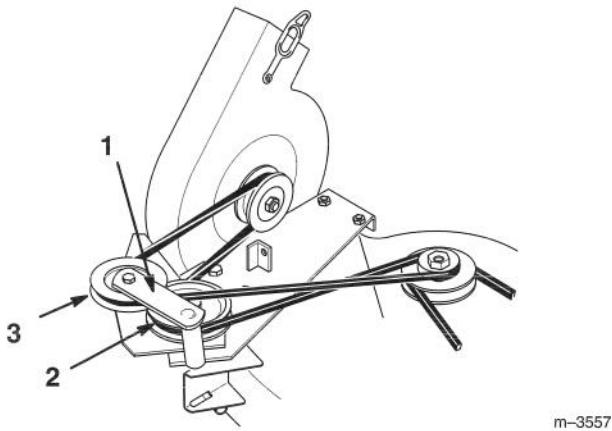

Figure 15
2. Open latch and swing the blower out away from the mower, install the blower belt around idler and blower pulleys as shown (Fig. 15).